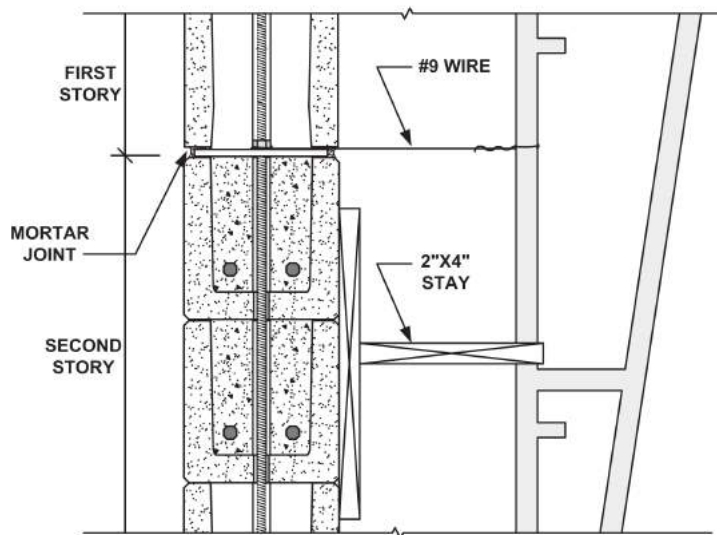

Fig. 5.26
6. Wall scaffolds must be securely braced in accordance with state and federal codes and regulations (*Fig. 5.26*).
13. Never overload the platforms and scaffold beyond the recommended load capacity. The scaffold and component parts must be capable of supporting at least four (4) times the maximum intended load.
According to OSHA, a scaffold must always be secured when its height exceeds four times the minimum base wythe (OSHA 1926.451 (c) (1)). This being the case, a four foot base wythe would require a tie at 16 feet. This is well above where a typical bond beam would be placed in a FlexLock® wall. Although it may not be necessary, a compensation mortar joint is placed on top of a bond beam to reduce tolerance stack up. At this joint, which is just above the bearing plate in the wall, a #9 wire can be wrapped around the tendon and placed through the mortar joint where it can be twisted around the scaffolding (see *Fig. 5.26*). In standard masonry, this is done by placing an 8-12 inch piece of rebar vertically in the core and twisting #9 wire around it. The core is then filled with grout and the wire is run through the mortar joint. When the mortar and grout are set, the wire is twisted around the scaffolding. In both cases, the wet mortar is dug out around the wire so that after its use, it can be clipped, the stub bent in, and the hole patched.